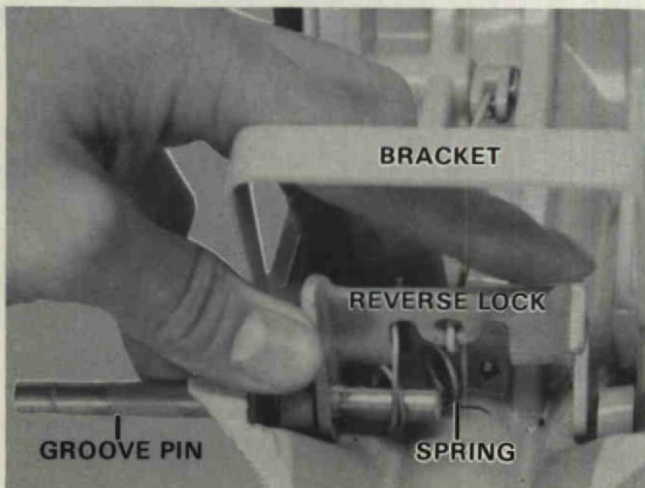

Figure 12. Installing Reverse Lock.
- C. Assemble reverse lock, spring, spacers and shallow water drive bracket by driving groove pin into swivel bracket. Figure 12.